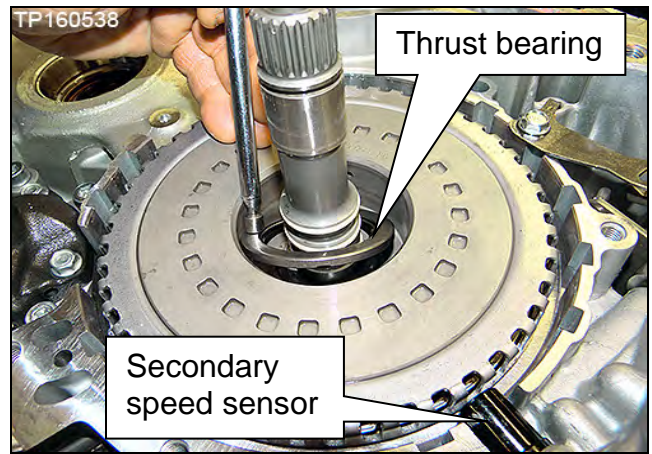

Figure 21B
14. Remove the thrust bearing from the clutch assembly (Figure 21B).
15. Wipe any metallic debris off of the face of the secondary speed sensor (Figure 21B).